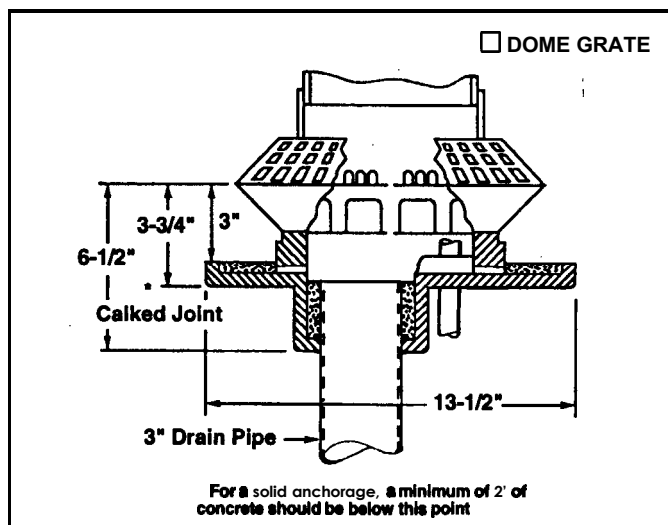

Figure 2
- B. Disposable washer will be on drain pan instead of drain casting. Position drain and pan assembly as in step two above. The two halves of the dome grate are installed after shower Column is in place, Figure 2.